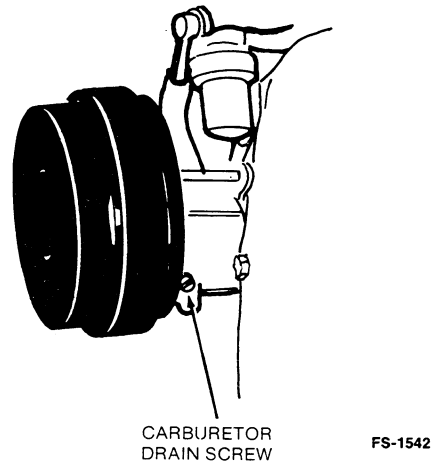

FIGURE 10. LOCATION OF CARBURETOR
5. Drain gasoline from the carburetor float bowl by removing the drain screw (make sure fuel valve is closed). Figure 10 shows a typical carburetor. Re-install the drain screw when finished.
2. Remove the carburetor float bowl drain screw and run gasoline into a container designed for gasoline usage. Figure 10 of *OPERATION* section shows drain location.